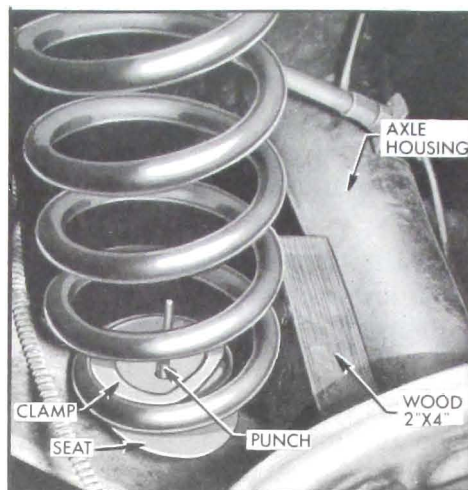

Figure 7-29—Wooden Block Behind Rear Spring - 49000
2. Place a short piece of 2 x 4 between lower end of spring and axle housing. See Figure 7-29. This assembly aid holds the spring forward on the lower control arm to facilitate attachment of the spring to the lower control arm.
4. Disconnect shock absorber at lower end. Lower rear axle assembly to allow positioning of spring in its seat on the lower control arm. Place a short piece of 2 x 4 between the lower end of the spring and axle housing. See Figure 7-29. This assembly aid holds the spring forward on the lower control arm to facilitate attachment of the spring to the lower control arm.